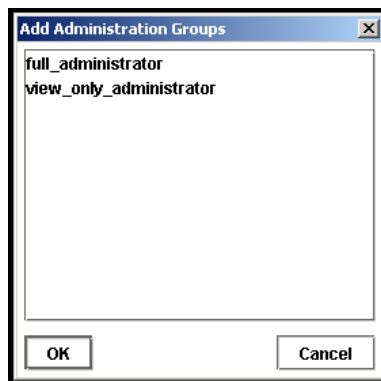

Figure 88. Adding a Group to an Administrative User
1. Click Add in the Member Groups section. The Add Administration Groups window opens, shown in Figure 88.